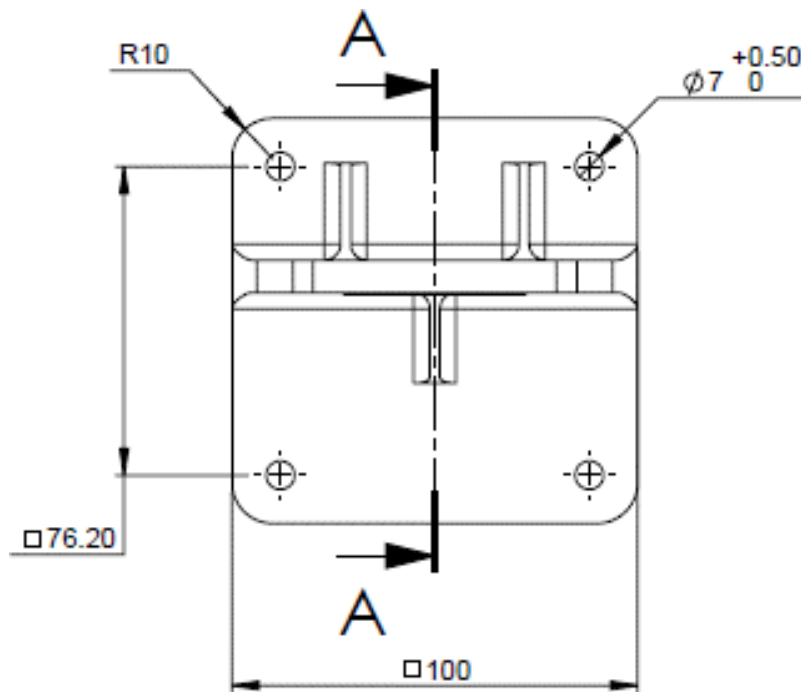

Figure 13 : Tilt Mount Base - Plate View
- a) Mount the tilt mount base (Figure 13) to a solid structure using four suitable fixings through the four 7mm (0.28") diameter holes. Four captive screws with spring washers are provided in the tilt mount.